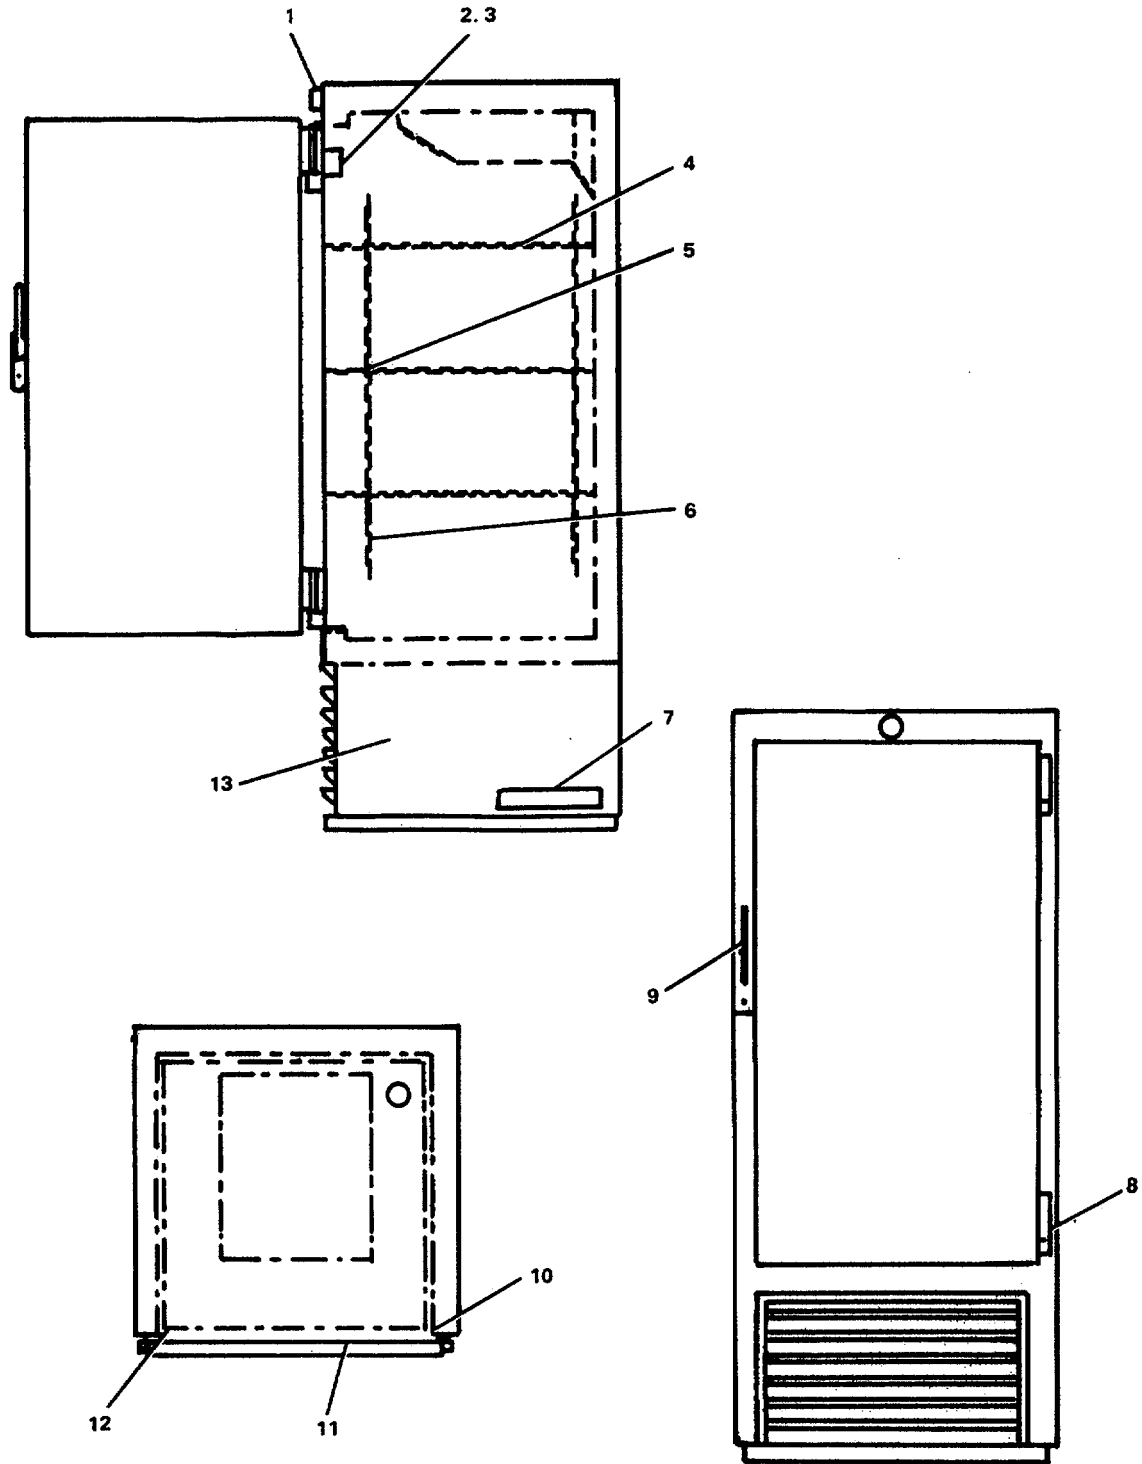

FIGURE 3-74. *Repair R-20 Refrigerator.*
**3-76. Repair R-20 Refrigerator. (Figure 3-74)**